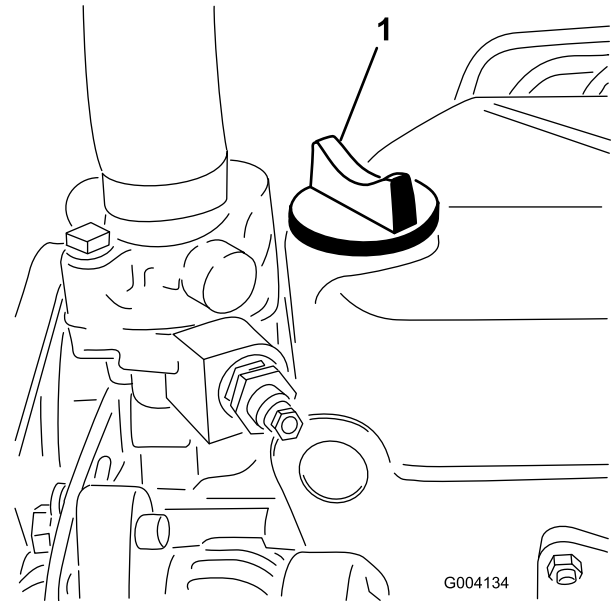

Figure 22
5. If the oil level is below the Full mark, remove the fill cap (Figure 22) and add oil until level reaches the Full mark on dipstick. **Do not overfill.**